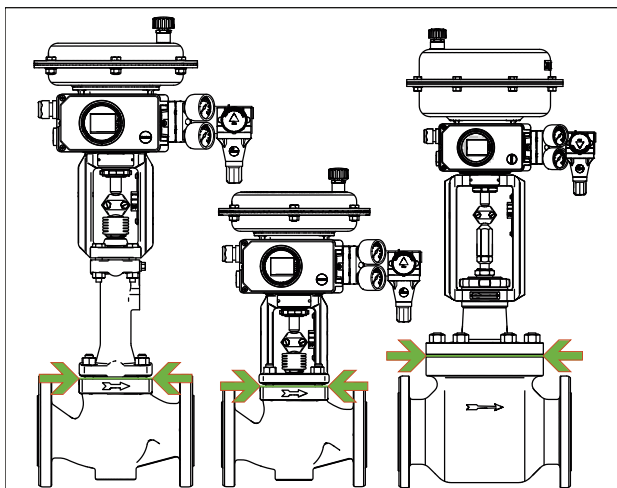

Fig. 12: Limit of insulation for control valves (example shown)
- ⇒ Only insulate control valves up to the bonnet flange of the valve body (see Fig. 12). This also applies to versions with bellows seal or insulating section at medium temperatures below 0 °C (32 °F) or above 220 °C (428 °F). If the insulating section is insulated, it will not function properly.